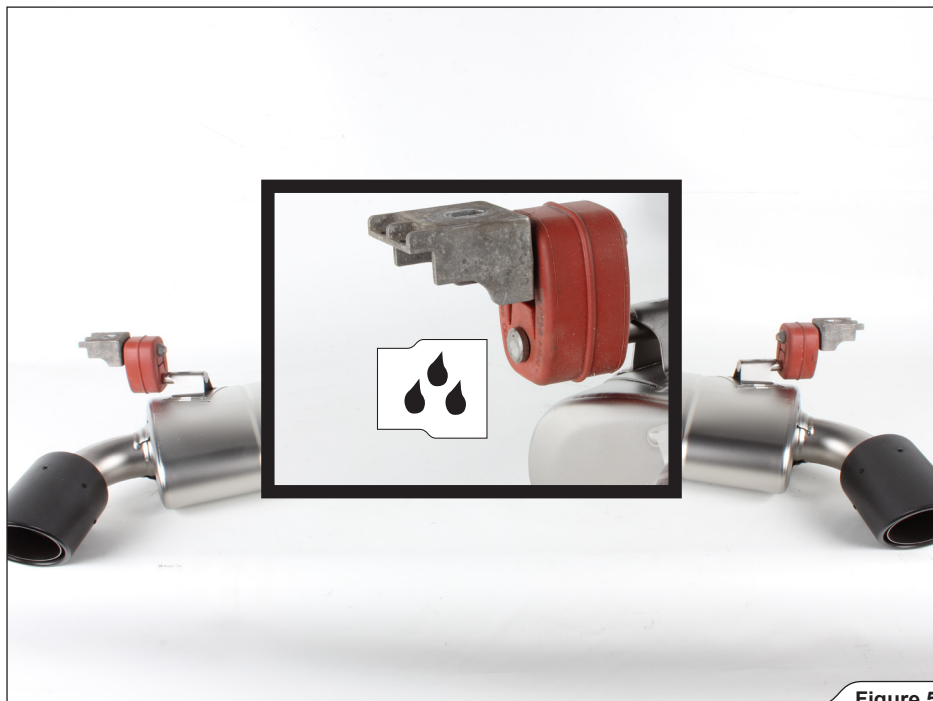

Figure 5
1. Attach the stock rubber brackets onto the Akrapovič muffler, as shown **(Figure 5)**.